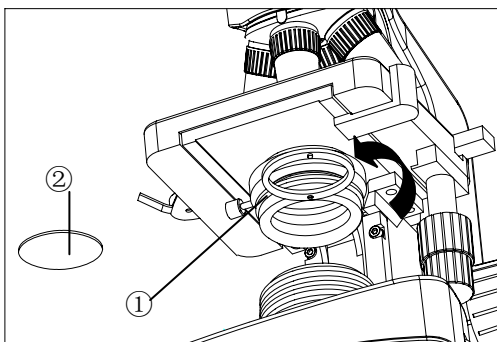

Fig.7
### 2.2.4 Install the color filter (Fig.7)
1. Rotate the condenser holder① out as Fig.7 shows.
2. Put the filter② into the condenser holder, and then switch back the holder.
### 2.2.6 Replacing the fuse (Fig.7, 9, 10)